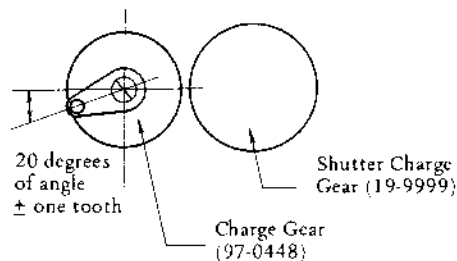

Fig. 8
- 2) Set Charge Gear (97-0448) at the position 20 degrees  $\pm$  one tooth in Fig. 8.